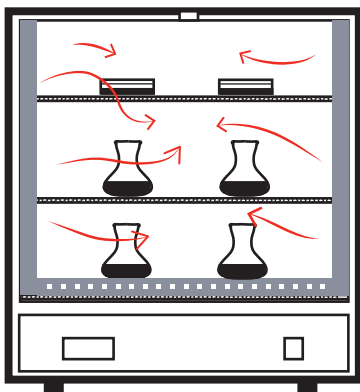

FIG. 5
- Load the incubator so that air circulation within the chamber is not impaired. (FIG. 5)